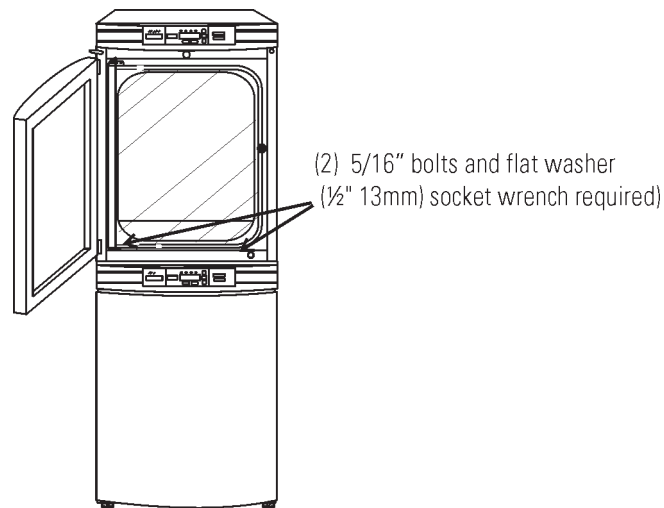

Figure 1-7. Align Slots and Bolts
5. Align the sides of the top unit and bottom unit and slide the top unit forward until the slots in the base of the top unit align with the 5/16"-18 stacking bolts in the exterior top of the bottom unit (Figure 1-7).